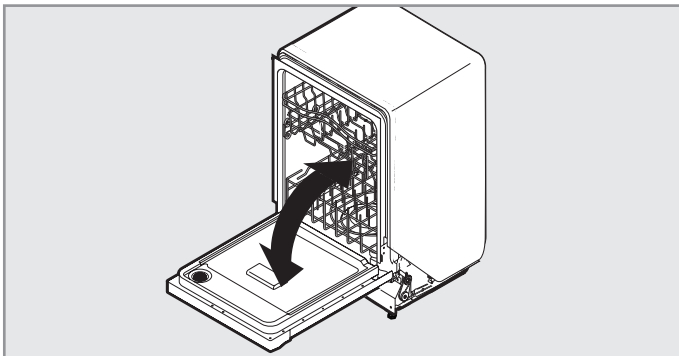

Figure 1
3. With another person holding the dishwasher to keep it from tipping, open and close the door a few times. If the door closes or falls open under its own weight, the door tension will need to be adjusted. See Figure 1.